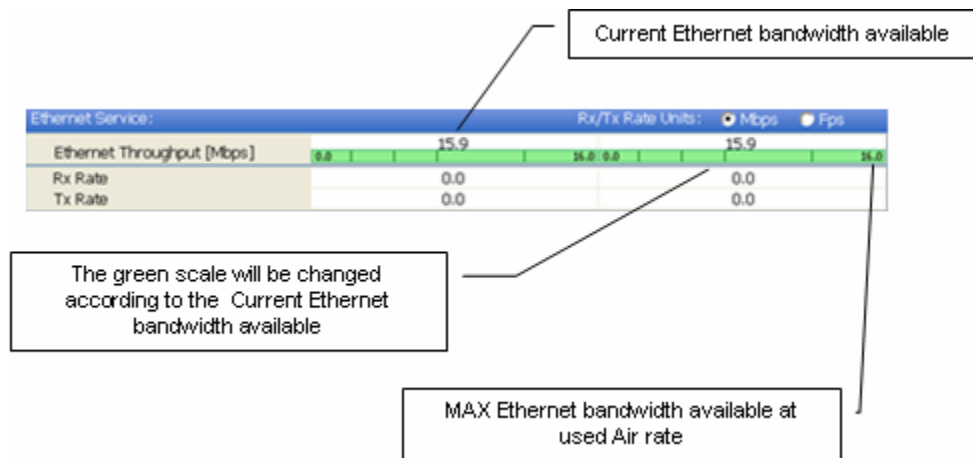

Figure 3-4. Ethernet Bandwidth Indication
- Current Ethernet bandwidth in Mbps. This is not the actual traffic rate, but the maximum capacity that can be supported currently, see *Figure 3-4*